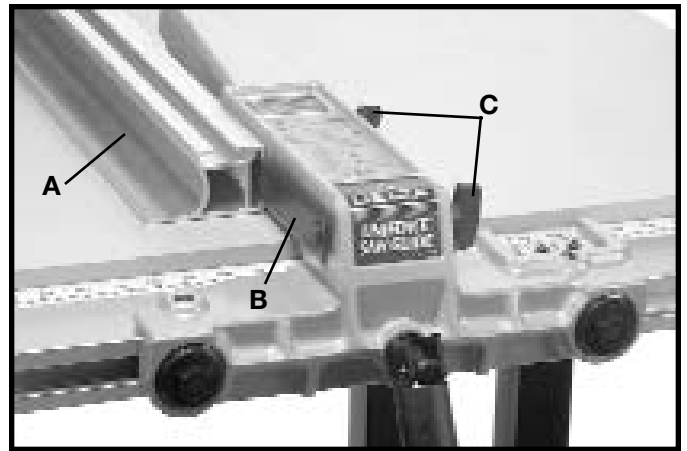
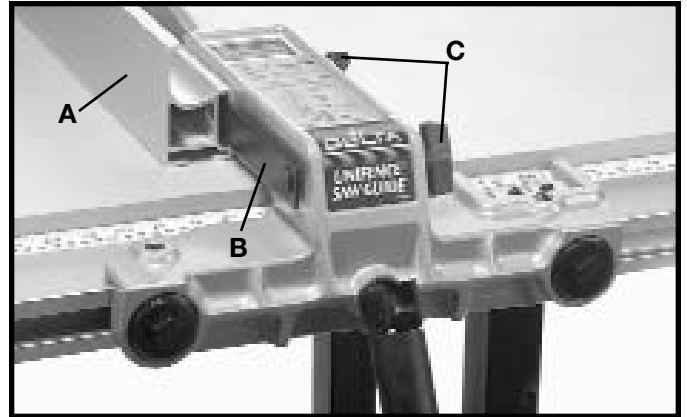

Fig. 36
Fig. 37
1. The fence (A) can be assembled to clamp plate (B) in either the horizontal position as shown in Fig. 36, or the vertical position as shown in Fig. 37. Make certain the two lock knobs, one of which is shown at (C), are loose and slide fence (A) onto clamp plate (B) as shown. Then tighten the two lock knobs (C).